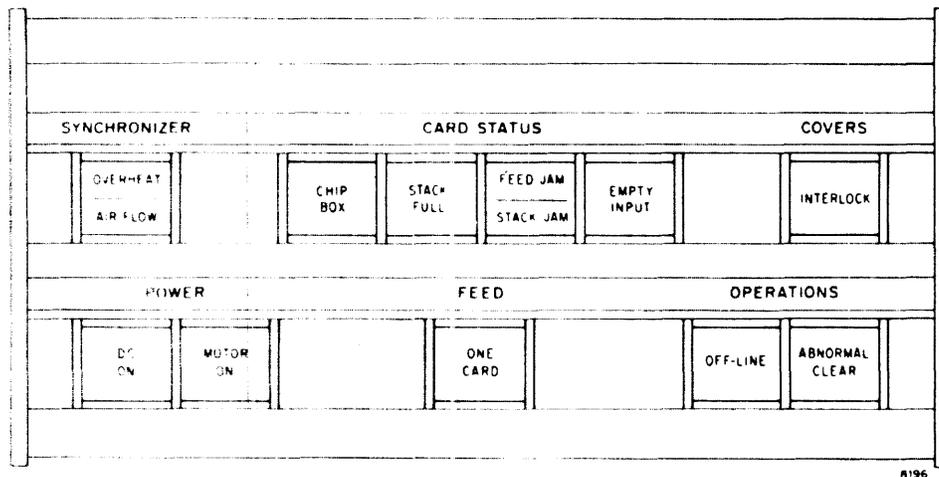

Figure 9-3. Card-Punch Control Panel
The control circuits (1) enable the system, through the synchronizer, to control card feeding, punching, and output-stacker selection, and (2) provide for limited control from the punch-unit control panel. Table 9-1 lists and describes the controls and indicators on the card-punch control panel. Figure 9-3 shows the control panel.